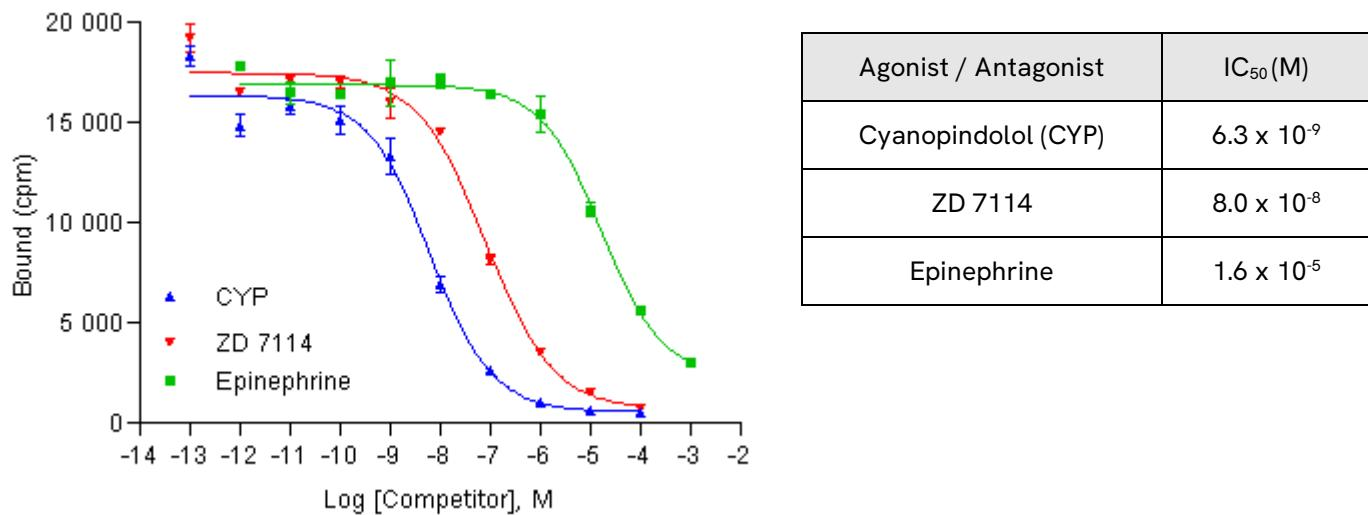

Figure 3: Competition Binding Assay Curve (Filtration)
2. Assembly on ice (in 96 Deep well plate)  Saturation Binding:	<ul style="list-style-type: none"><li>25 <math>\mu</math>L of assay buffer or of unlabeled ligand (Cyanopindolol (CYP), 250 <math>\mu</math>M final) for determination of non specific binding</li><li>25 <math>\mu</math>L of radioligand at increasing concentrations (see figure 3)</li><li>150 <math>\mu</math>L of diluted membranes</li></ul>